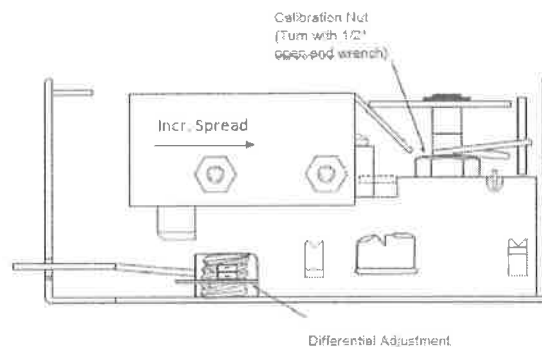

Figure-15 Adjustments.
The differential is adjustable by turning the adjustor located on the side of the device (see Figure-15).
4. Turn the calibration nut (located under dial) until the temperature of the bulb is indicated on the dial (see Figure-15).